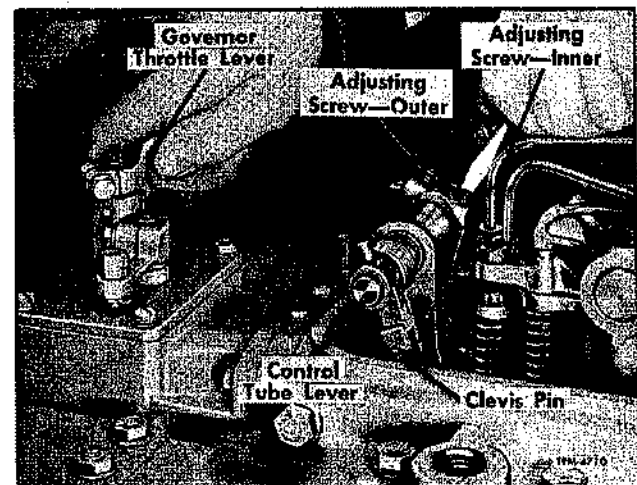

Figure 66—Positioning Injector Control Rack
4. Loosen all injector control rack inner and outer adjusting screws, as shown in Figure 66. Be sure all control levers are free on the injector control tube.
5. Move governor throttle control lever to the FULL FUEL position as shown in Figure 66. Turn inner adjusting screw down until a slight movement of the control tube is observed or a step up in effort is noted. This will place No. 1 injector rack in the FULL FUEL position. Turn down outer adjusting screw until it bottoms lightly on the injector control tube. Then alternately tighten both the inner and outer adjusting screws until tight.